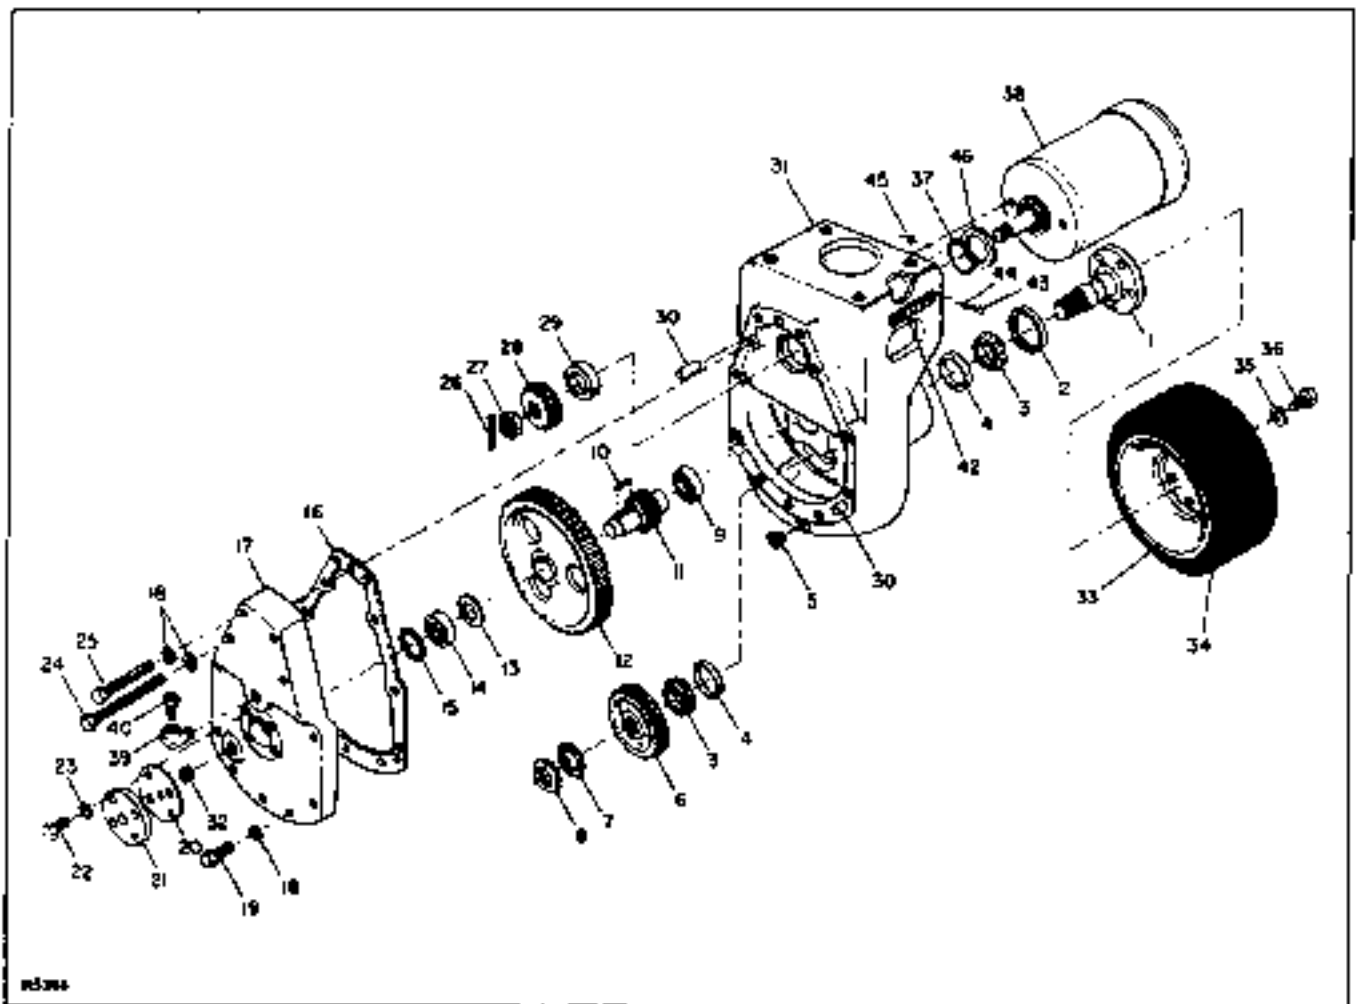

Figure 7-1. Transmission Assembly
5. If the cable leads connected to the terminal block (42, Figure 7-1) are not clearly labeled, label them from right to left beginning with 1 and then disconnect the cable leads from the terminal board.
6. Make sure the four cables to the drive motor (38) are properly labeled A1, A2, F1, and F2 and then disconnect the cable from the drive motor.
8. Remove the transmission drain plug (5, Figure 7-1) and drain the transmission oil.
9. Position the drive assembly to access the two screws (24) and washers (18) which secure the motor to the transmission housing and remove the screws and washers.
12. Remove the four screws (5) and washers (6) that secure the transmission (7) to the pivot tube weldment (8).
13. Remove the transmission and drive wheel (9) from the truck by raising the rear of the lift truck with jacks or other suitable means and sliding the assembly out from under the truck.
14. Remove the four hex head cap screws (22, Figure 7-1) and lock washers (23), bearing cover (21) and gasket (20).
15. Remove bearing spacer (15).
16. Remove seven screws (19), two screws (25), and lock washers (18); pry off transmission cover (17) and pull off cover gasket (16).
17. Remove ball bearing (14) and pinion spacer (13).
18. Remove intermediate gear (12) and square key (10).
19. Remove spur pinion (11).
20. Remove locknut (8) and lock washer (7).
21. Remove drive wheel and axle shaft (1) to free gear (6), roller bearing cones (3) and cups (4), and oil seal (2).
22. Remove ball bearing (9).
6. Remove the five retaining screws (36, Figure 7-1) and lock washers (35) that secure the drive wheel to the axle shaft and then pry off the wheel.
7. Reverse the above procedures to install new drive wheel. Torque screws (36) to 115-125 ft.-lbs.